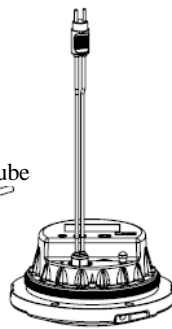

Figure 5-26
- After detection, release the air pressure in the lighting fixture with the air valve of the valve core, re-screw the valve cap and put it into use (Figure 5-26). In case of leakage, check the causes according to the previous prompts and repeat the whole lighting fixture disassembly and assembly process or return it to the factory for maintenance.